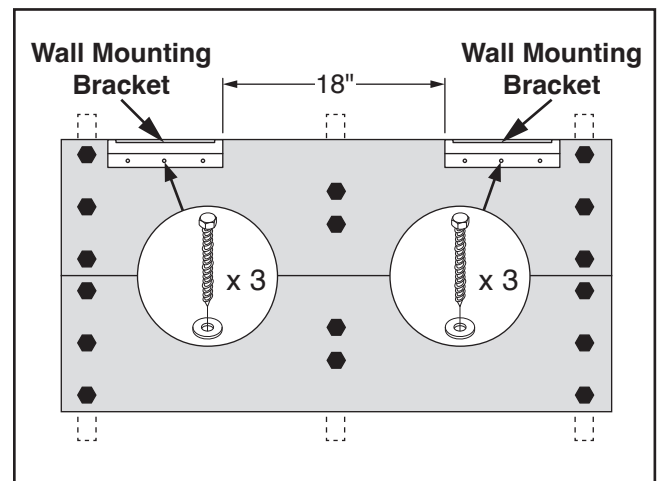

Figure 20. Wall mounting brackets secured to top of mounting board.
3. Secure (2) wall mounting brackets to top mounting board 18" apart using (6) $\frac{5}{16}$ " x 2" lag bolts and (6) $\frac{5}{16}$ " flat washers. Ensure wall mounting brackets are aligned with top of mounting board (see **Figure 20**).